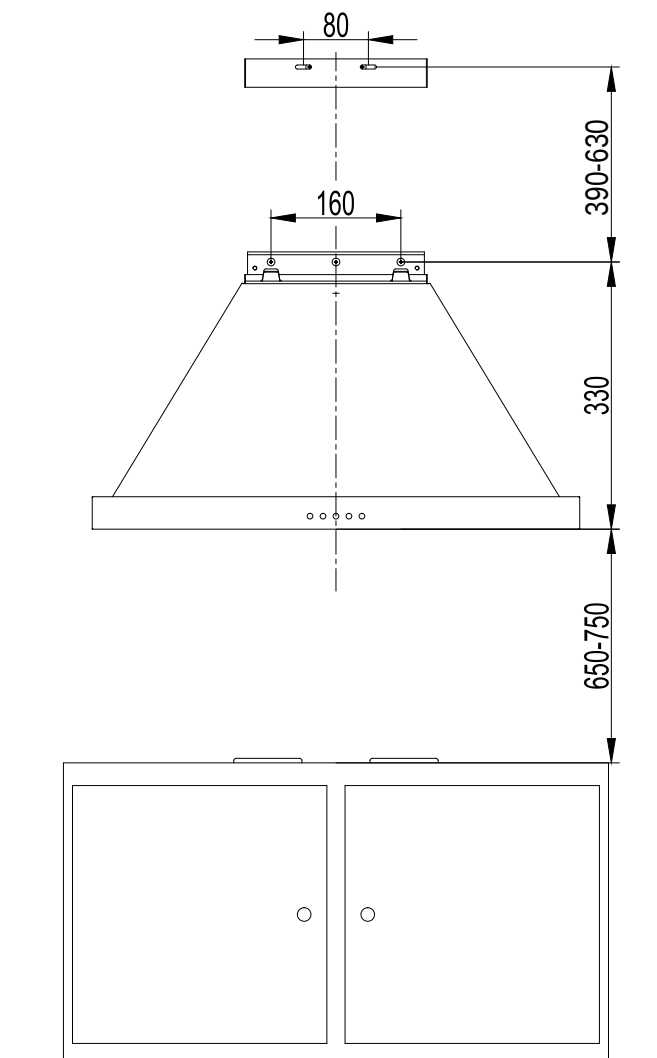

Fig.2
- The cooker hood should be placed 650~750 mm up from the cooking surface for safe and a good effect. See Fig.2.